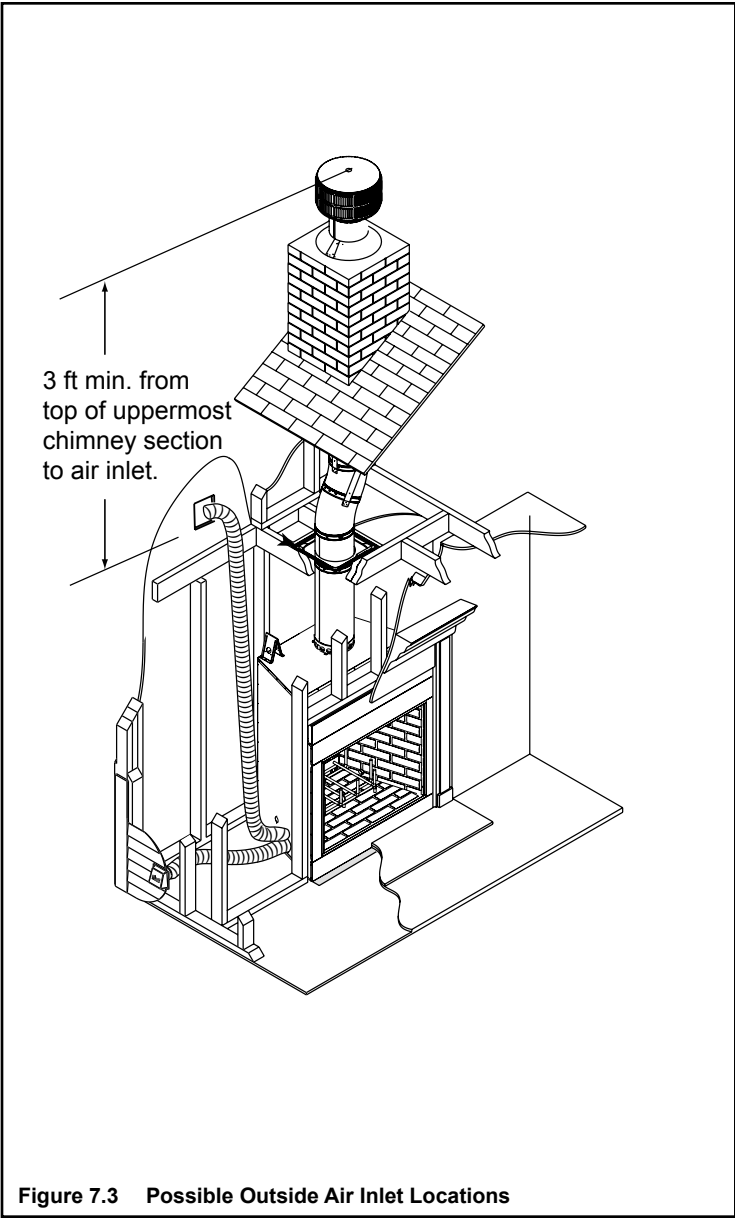

Figure 7.3 Possible Outside Air Inlet Locations
- Install as shown in Figures 7.3 - 7.5.